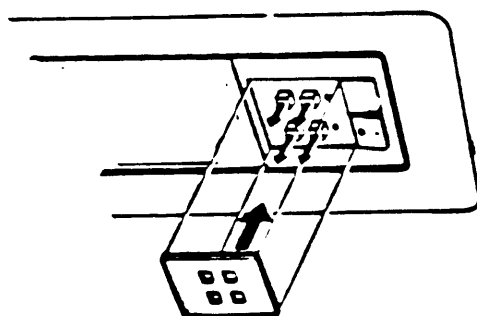

Figure 2-22. Label the Front Control Panel.
Step 10: Label the system control panel and diskette drive units (see Figure 2-22).